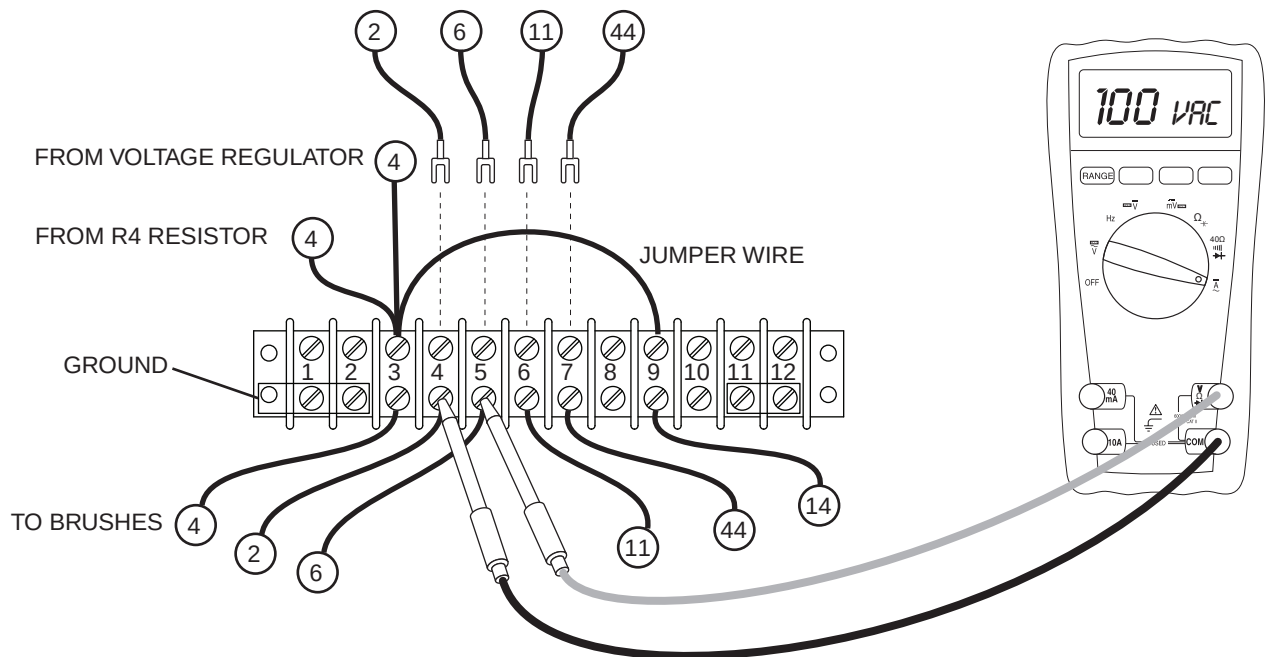

Figure 3. Flashing the Field
2. Connect a jumper wire from Terminal 9 (Wire 14) of Terminal Board 1. Connect the other end of the wire to Terminal 3 (Wire 4) of the same terminal board. See Figure 3.